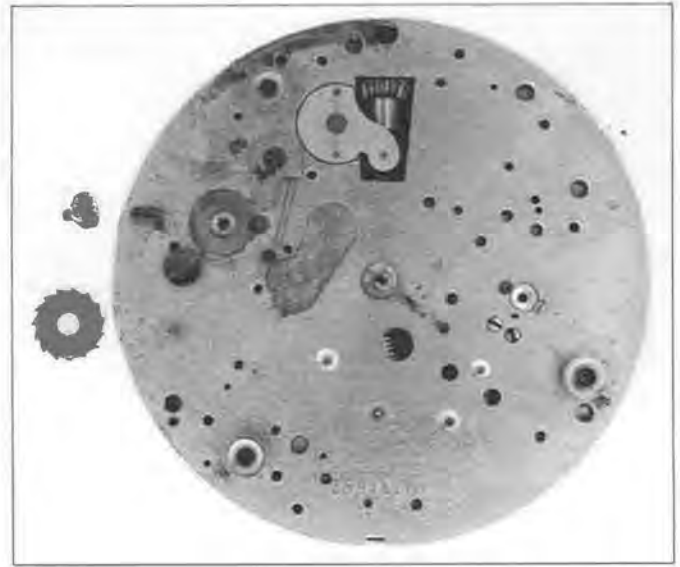

Figure 14
Step 15. Remove the cam screw and actuating cam. The cam screw has a shoulder that furnishes a bearing for the actuating cam. Figure 14 shows the cam and screw after their removal.